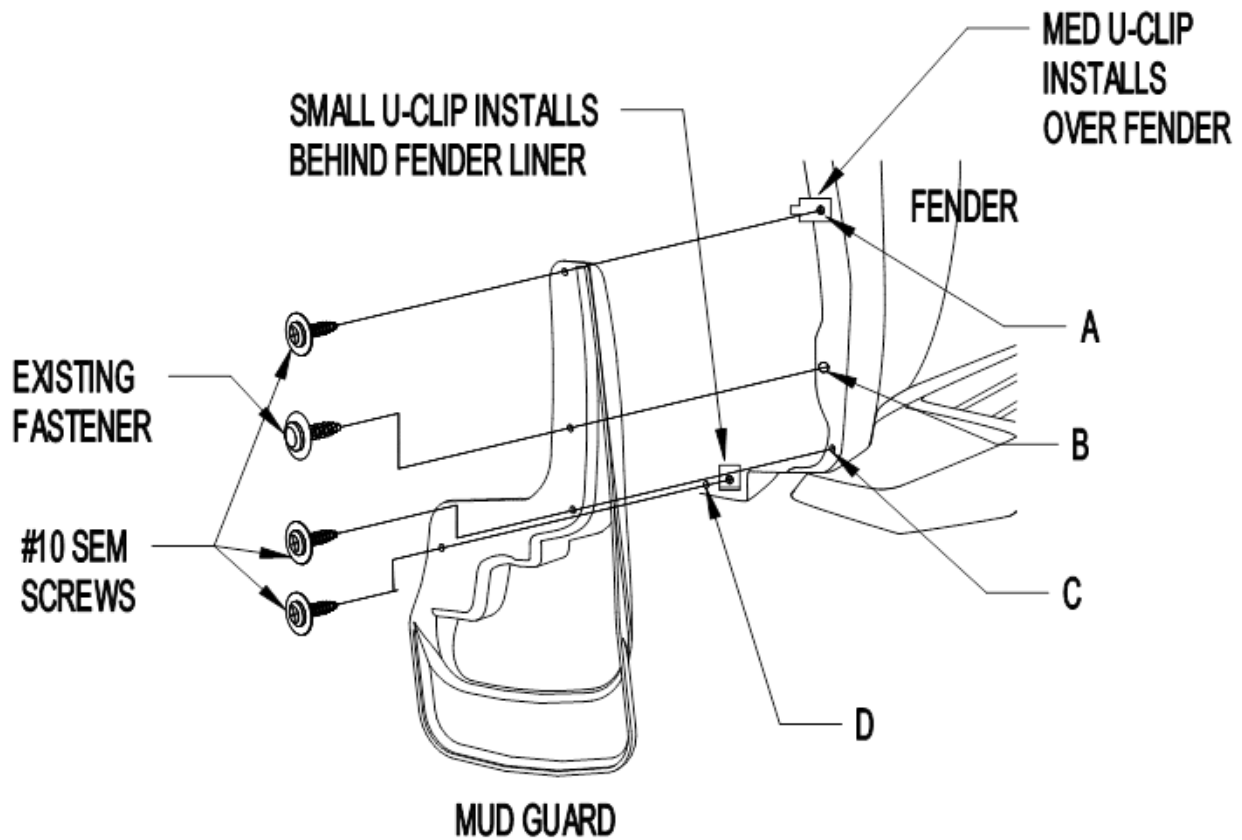

Figure 1
1. Remove existing fasteners from location B (Figure 1).
3. Install mud guard with existing fastener at location B. Check fit and make sure mud guard is parallel to ground before tightening (see Figure 1).
7. Install #10 SEM screw at location D, thru mud guard, fender liner and into a **small u-clip** behind liner. NOTE: The u-clip is used like a nut and DOES NOT clip over fender liner (Figure 1).